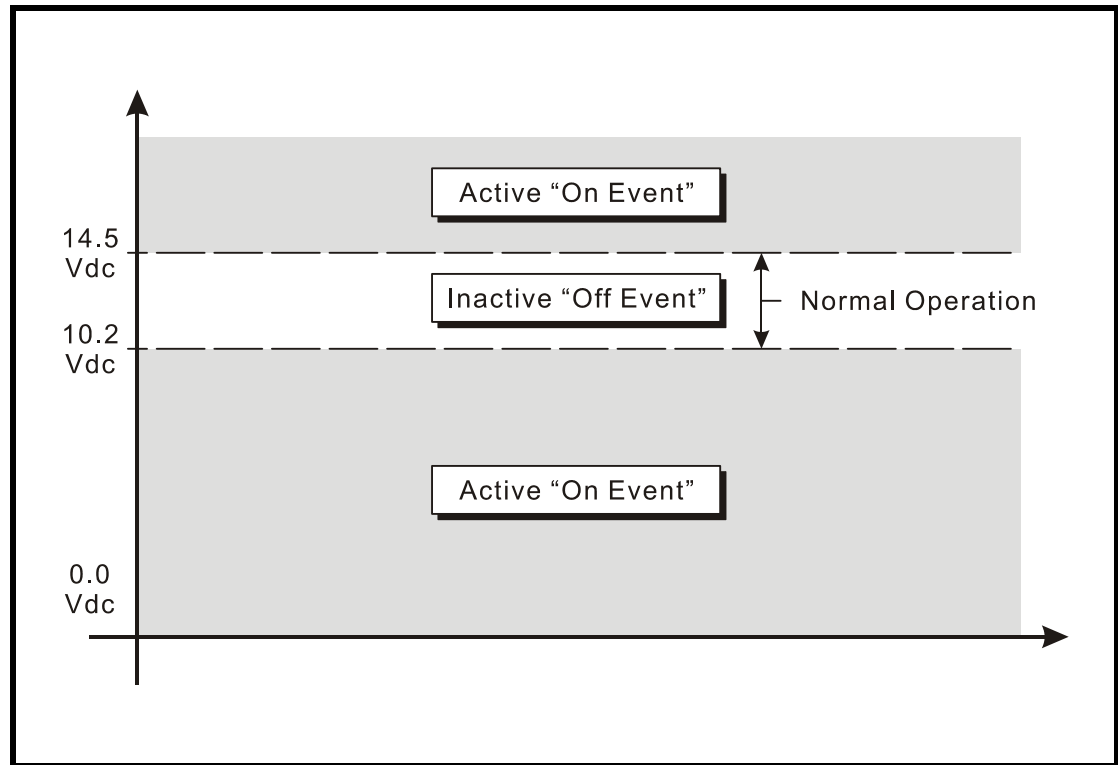

Figure 4 - Analog Input Operating Regions vs. Limit Values
Figure 4 on page 27 illustrates the relationship of the Low and High Limit Values to the Analog Input state. Each region defines the type of Event Record that is created by transitions of the input. The figure depicts an Analog Input configured to monitor a typical 12Vdc battery source. The figure indicates that the unacceptable region includes all voltages less than 10.2Vdc and all voltages greater than 14.5Vdc. The unacceptable region always consists of two portions separated by the acceptable region. If the input is within the range extending from 10.2 to 14.5Vdc the battery voltage is considered to be acceptable.
- **On:** The Digital Input voltage is in the range from 5 to 40Vdc. The Analog Input level is outside the acceptable range as defined by the region between the Limit Values (refer to Figure 4 on page 27). The Virtual Input evaluates to a true logic state. The Timer Input has reported a timed interval that is either too fast or too slow as compared to its assigned Low and High Limit Values, respectively (refer to the section entitled “Timer Inputs (W)” on page 27).